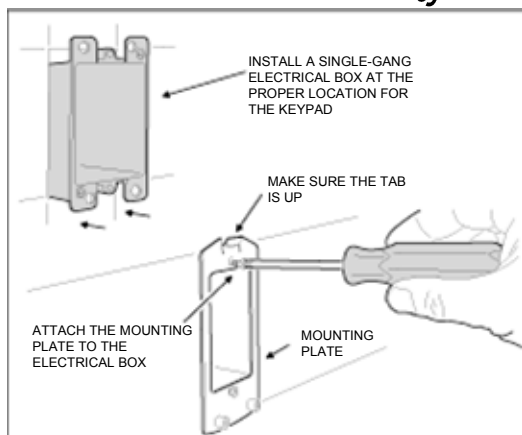

Fig. 4 Installing the Mounting Plate
- Screw the mounting plate onto the electrical box (see Fig. 4)